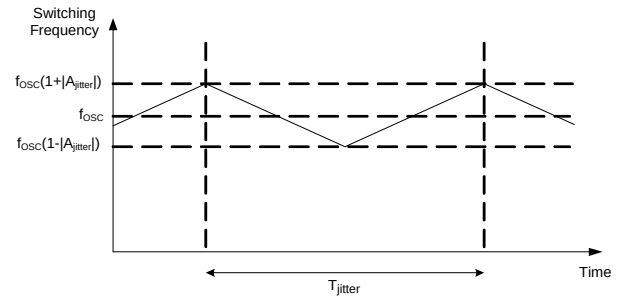

Figure 3: Frequency Jittering
An internal capacitor is charged with a controlled current source, which is fixed when FB is greater than 2V, and its voltage is compared with the V_{TIMER} voltage (V_{TIMER}). V_{TIMER} is a triangular wave between 2.8V and 3.2V with a charging/discharging current (see Figure 3). The switching frequency can be calculated using Equation (1):